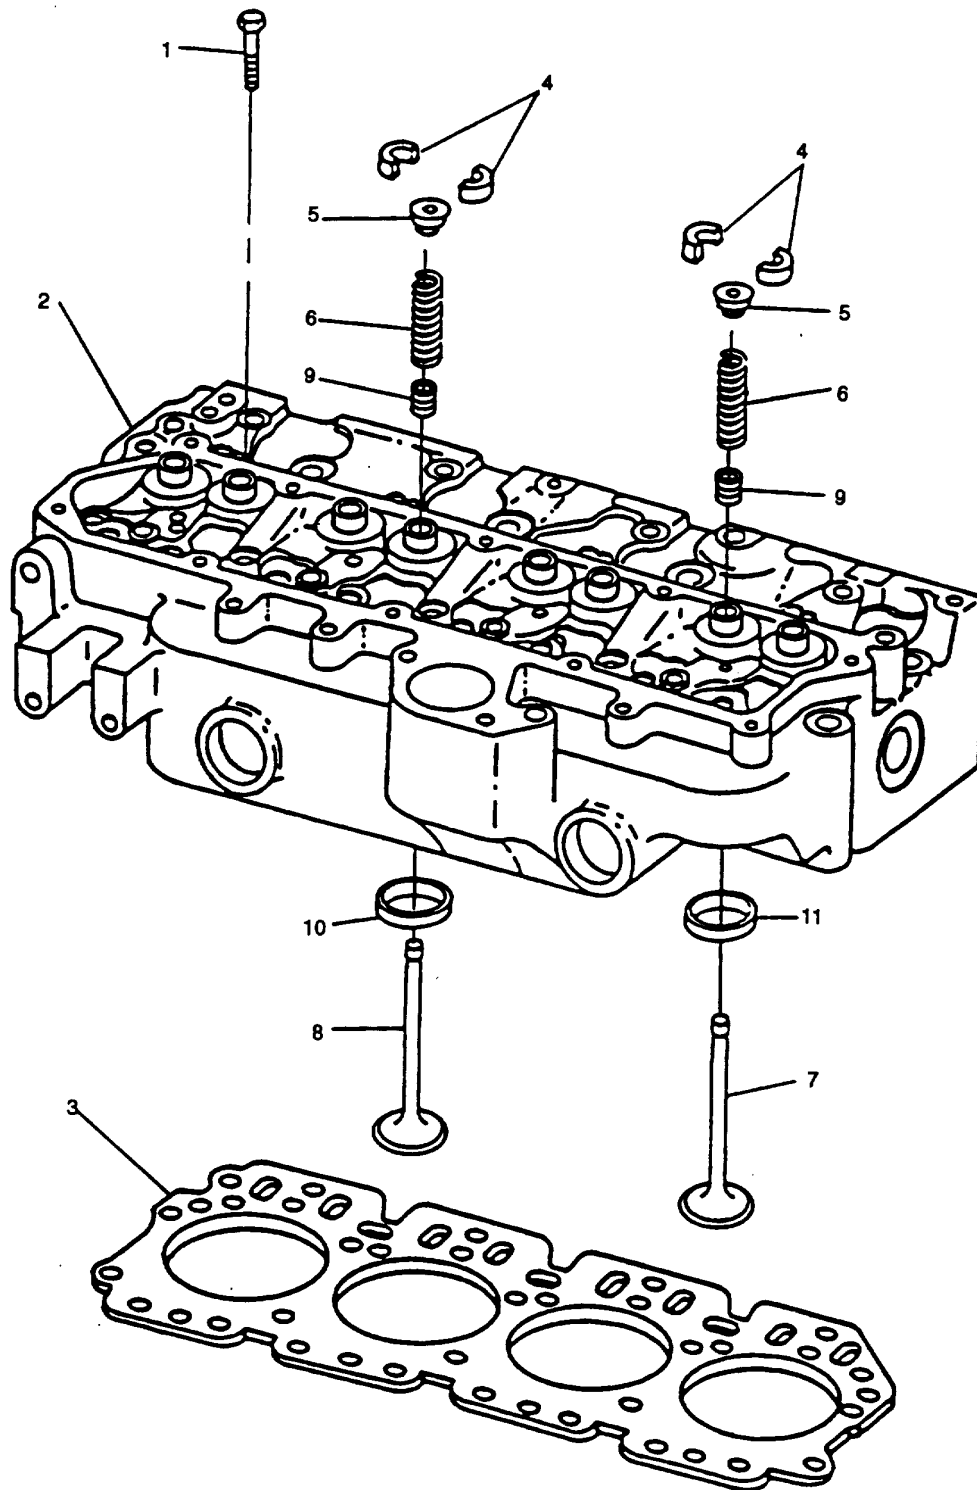

FIGURE 3-99. Cylinder Head Assembly
- k. If a blown head gasket is suspected, check and record each cylinder head cap screw (1, FIGURE 3-99), torque before removing them as follows:
- (1) Make a reference mark (in-line) on head of cap screw and cylinder head surface.
- (2) Loosen cap screw at least 1/2 turn, then retighten cap screw (using a torque wrench) until reference marks align and record torque.
- l. Remove eighteen cap screws (1) securing cylinder head to engine block.